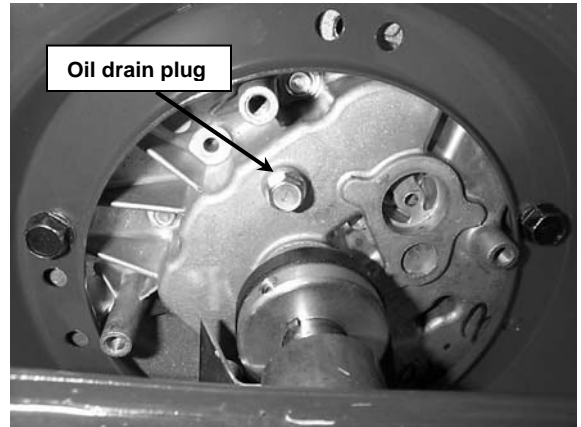

FIGURE 3.2
**3.2.2. BOTTOM DRAIN PLUG.** An oil drain plug is located on the bottom of the engine forward of the crankshaft. See Figure 3.2. Gain access to the plug by raising the front of the mower. Remove plug and drain oil into pan. Torque drain plug to 180-185 in-lb.